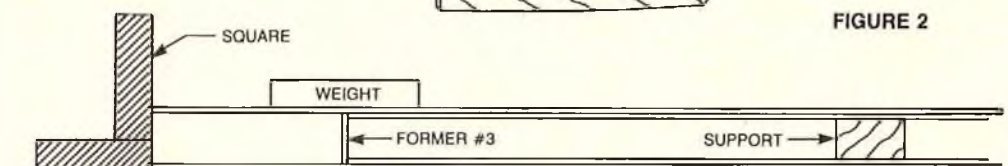

FIGURE 3
Step 6. Glue other side to Former #3 as shown in Fig. 3. Use square all around.